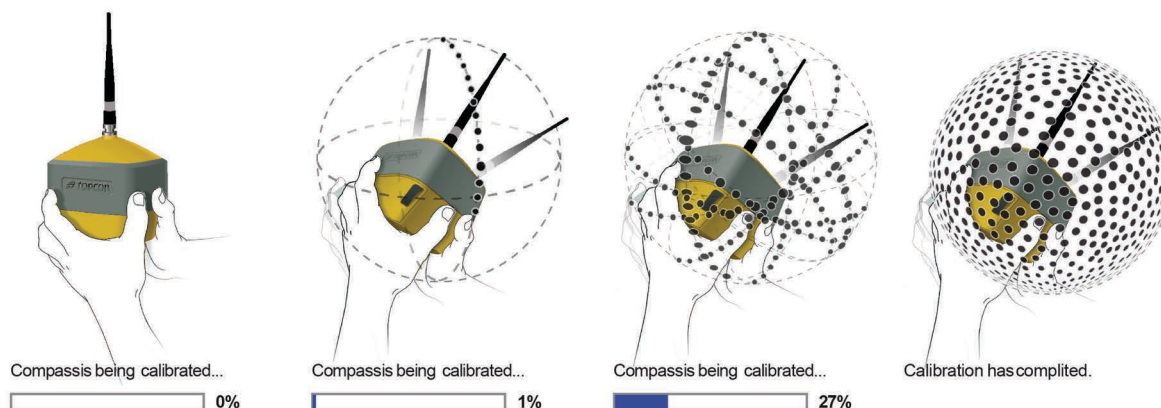

Figure 5-21: Calibrating the Compass in 3D
MAGNET Field and TRU shows a progress bar reflecting your progress with filling the sphere around the receiver. It shows, “Compass is being calibrated,” (see Figure 5-21).
4. If the entire sphere has been successfully been filled, MAGNET Field / TRU shows, “Calibration has completed,” (see Figure 5-21).